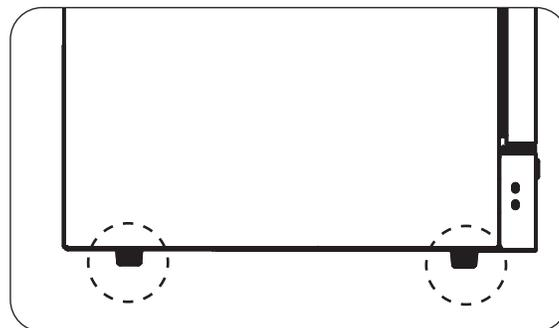

Fig. 8-1 Leveling legs
3. Level the appliance by adjusting the leveling legs. See Fig. 8-1 and following the steps below:
- Turn counterclockwise to raise the unit, or clockwise to lower it. See Fig. 8-1.